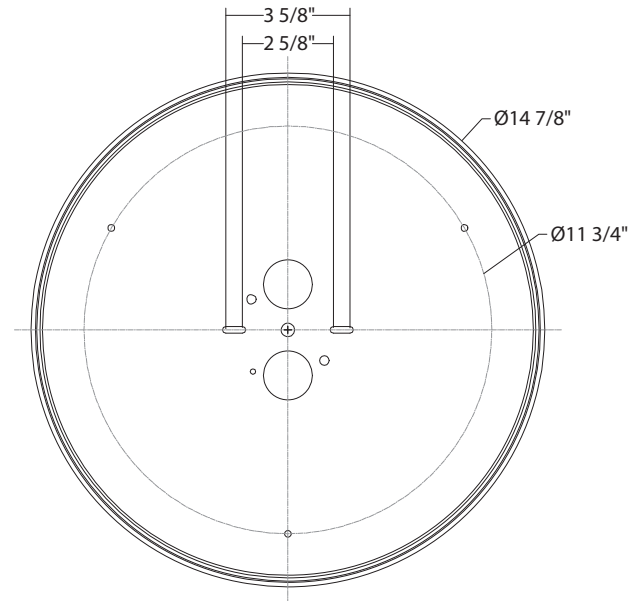

Fig.2 Wiring
### CONNECTING THE WIRES (Fig. 2 / Fig. 3/ Fig.5)
9. Connect the driver's input wires to junction box wires as shown in Fig. 2, make sure that all wire connectors(A) are secured. If your outlet box has a green or bare copper ground wire, connect the fixture's ground wire to it. Otherwise, connect the fixture's ground wire directly to the back plate using the screw provided. After wires are connected, tuck them carefully inside the junction box.